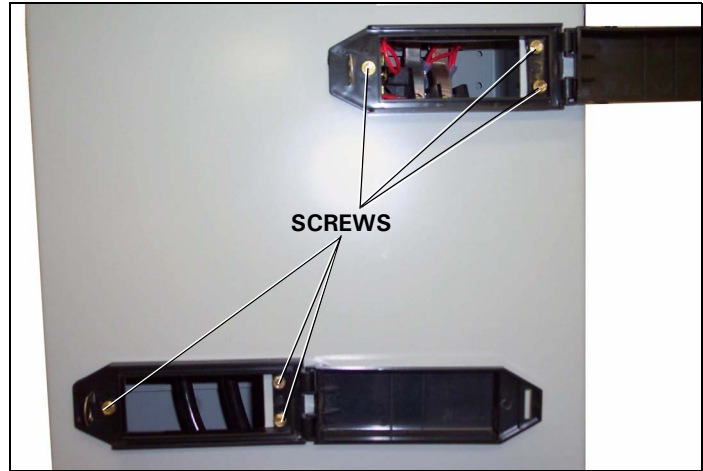

Figure 51. Location of the Service Entrance Cover Screws.
Step 3: Remove the three (3) screws securing the service entrance cover to the ATS door using a blade screwdriver or 0.25 in. nut driver (see Figure 51). Remove the service entrance cover.